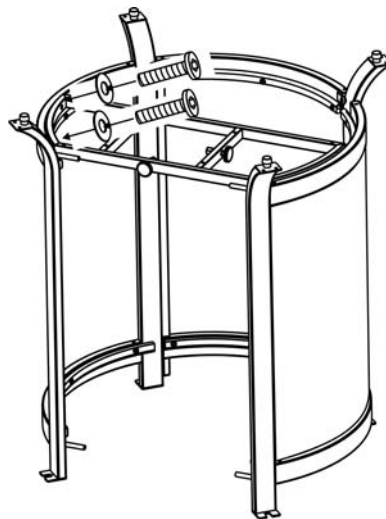

Figure 3
3. Attach the LP support to the table legs by using four 1/4"x30 mm bolts and Ø6.5x1.0 mm washers as shown in Figure 3. Guide the bolts through the holes in the LP support, into the pre-drilled holes in the table legs. **Hand tighten only.**